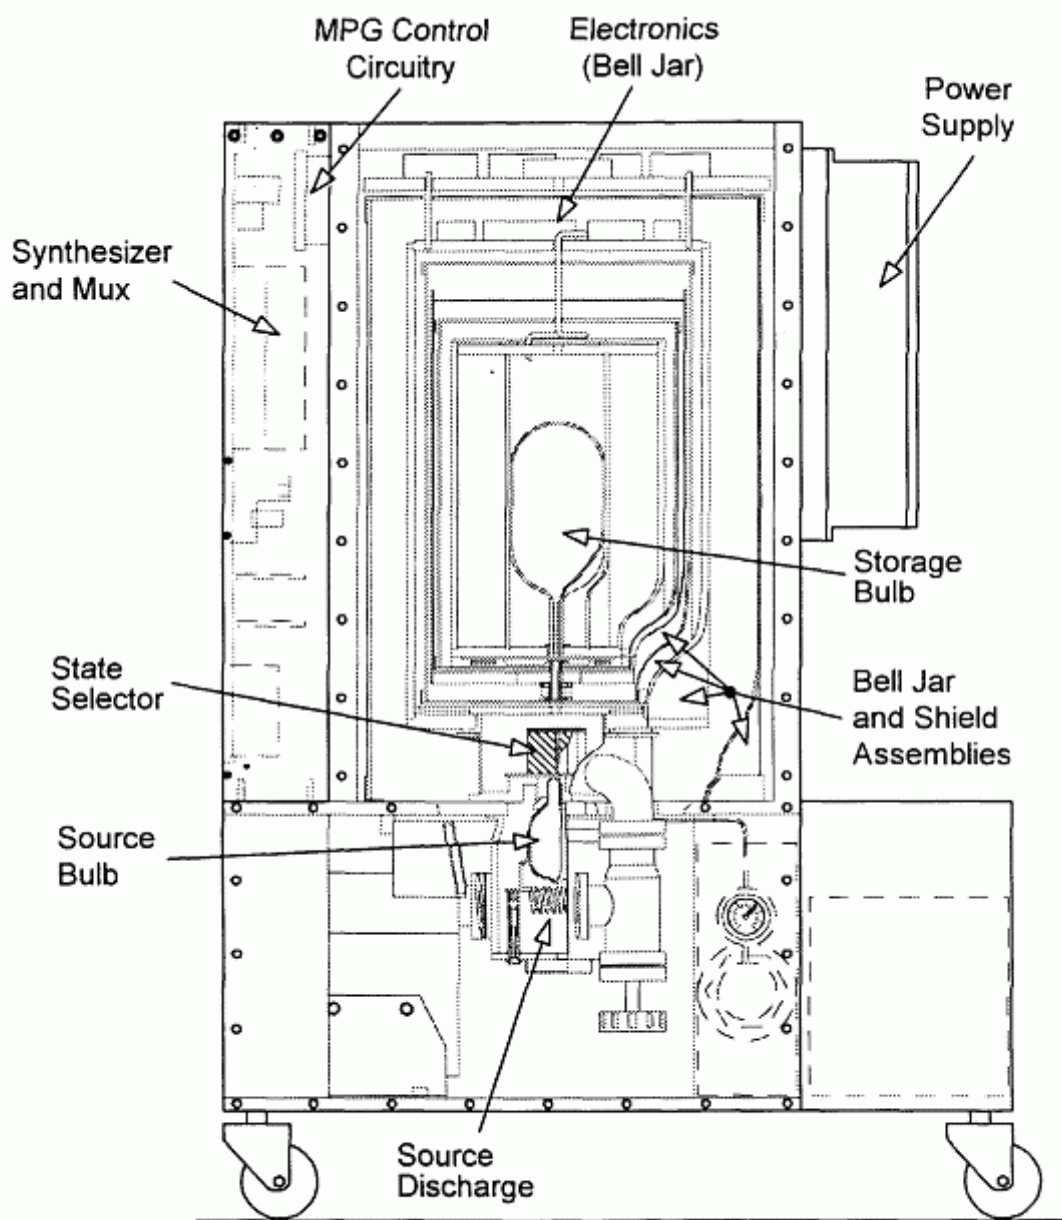

Figure 4. Hydrogen Maser, Physics Layout and Identification.
4. Remove the two tie down straps (see Figure 4).
5. Unscrew the caster blocks (see Figure 4).